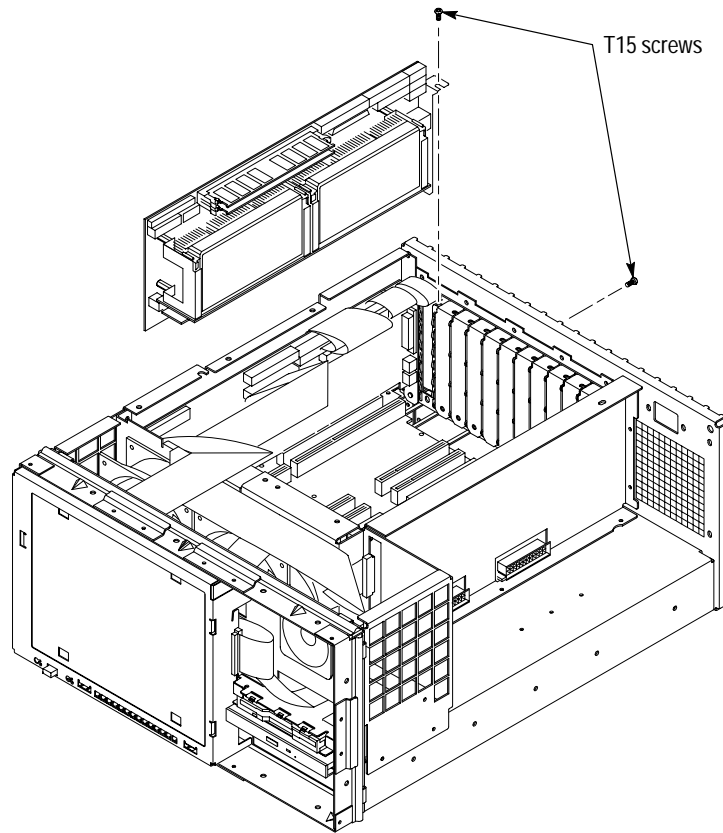

Figure 6–23: Controller board orientation and screw locations
4. Attach the controller board bracket to the mainframe chassis with two T15 screws (see Figure 6–23). Torque the screws to 8 in-lbs.
- 1.** Remove the two T15 screws that hold the I/O board to the mainframe chassis (one on top and the other in the rear panel, similar to the position shown for the controller board in Figure 6–23).